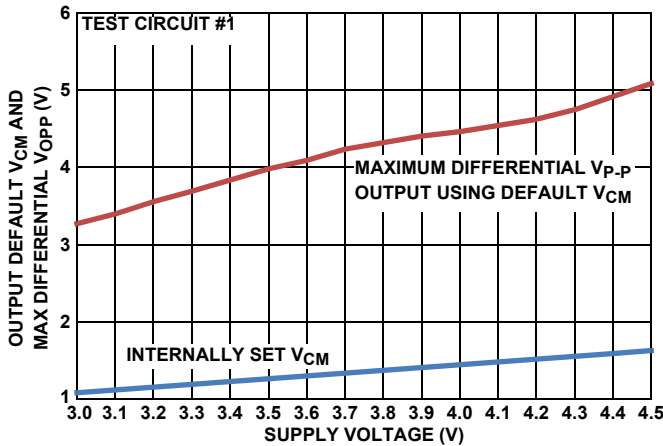
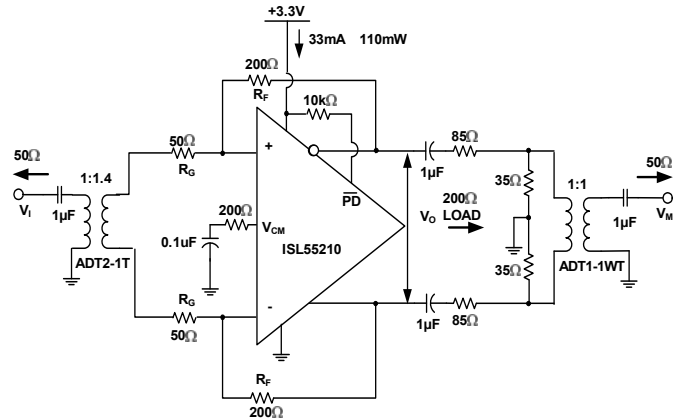
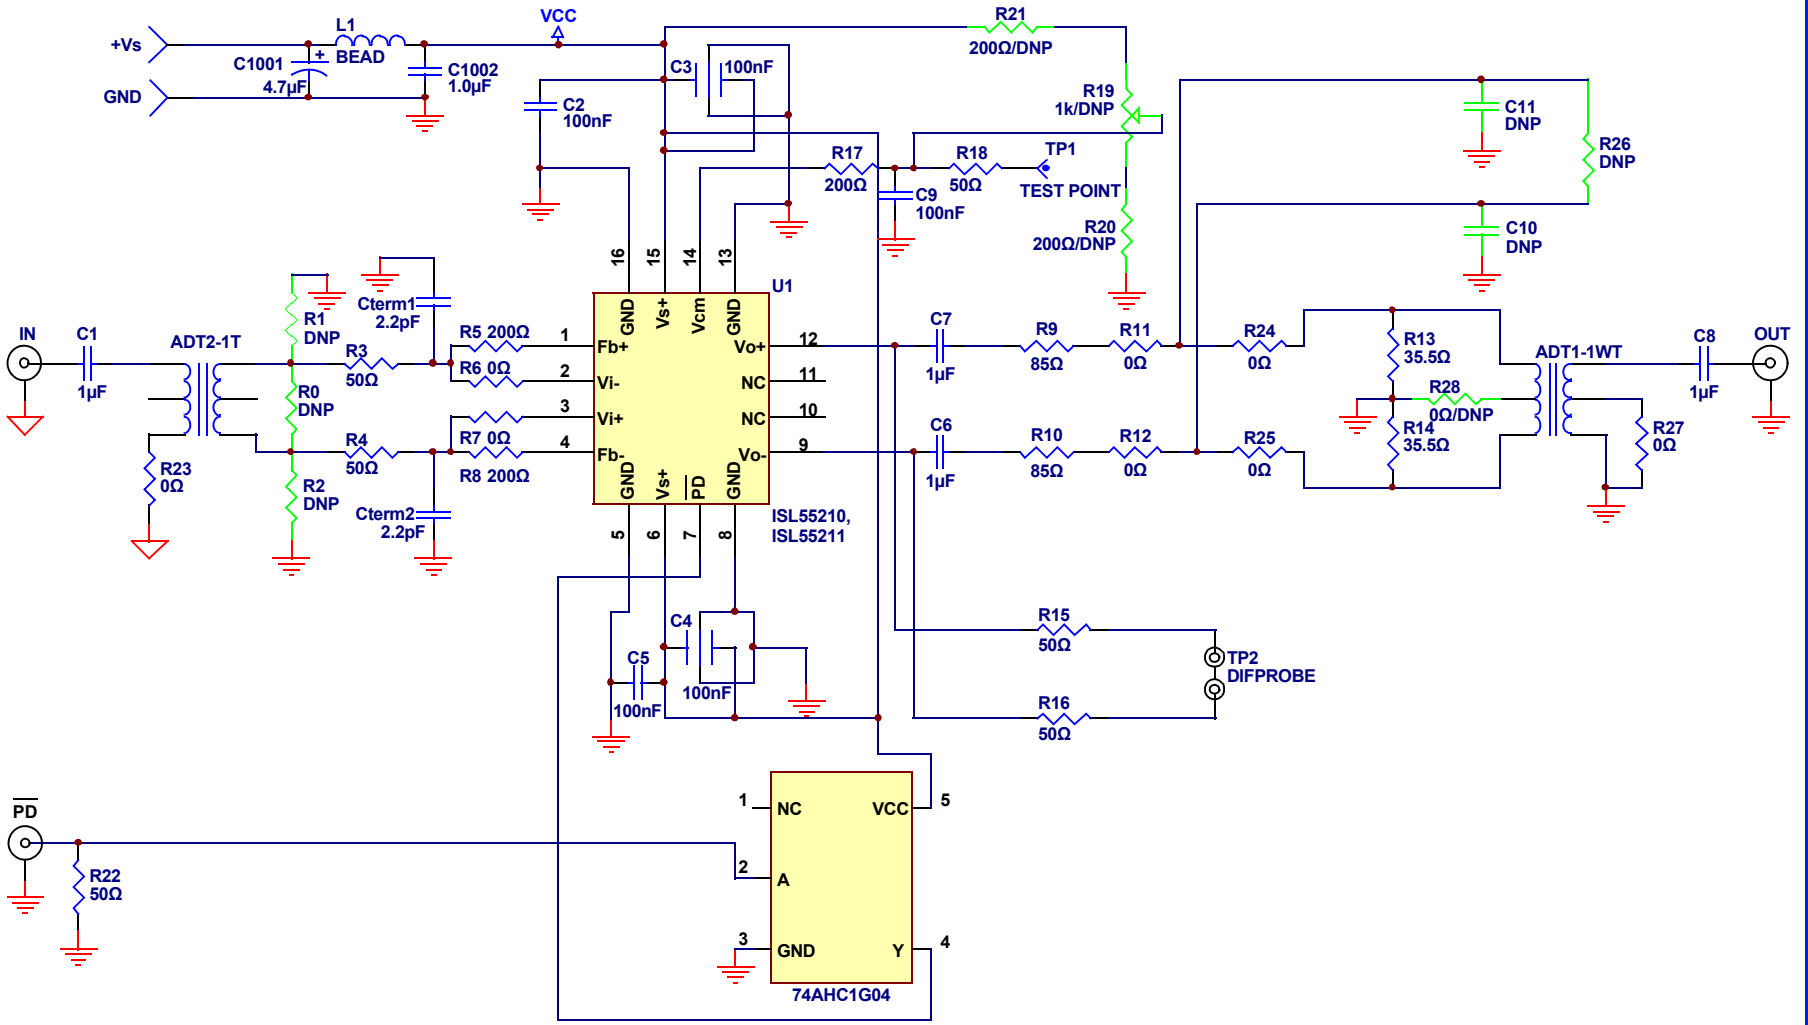

FIGURE 26. DEFAULT  $V_{CM}$  AND MAX  $V_{OPP}$  vs SUPPLY VOLTAGE
FIGURE 28. TEST CIRCUIT #1
FIGURE 38. SCHEMATIC FOR ISL55210, ISL55211 SINGLE INPUT TRANSFORMER EVM REV. C
The circuit of Figure 28 forms a starting point for many of the characterization curves for the ISL55210. Since most lab sources and measurement devices are single-ended, this circuit converts to differential at the input through a wideband transformer and would also be a typical application circuit coming from a single ended source. Assuming the source is a  $50\Omega$  impedance, the  $R_G$  resistors are set to provide both the input termination and the gain. Since the inverting summing nodes act as virtual ground points for AC signal analysis, the total termination impedance across the input transformer secondary will be  $2 * R_G$ . Setting this equal to  $n^2 * R_S$  will give a matched input impedance inside the bandwidth of the transformer (where "n" is the turns ratio). The amplifier gain is then set by adjusting the feedback resistors
Working with a transformer coupled input as shown in Figure 28, or with two DC blocking caps from a differential source, means the output common mode voltage set by either the default internal  $V_{CM}$  setting, or a voltage applied to the  $V_{CM}$  control pin, will also appear as the input common mode voltage. This provides a very easy way to control the ISL55210 I/O common mode operating voltages for an AC coupled signal path. The internal common mode loop holds the output pins to  $V_{CM}$  and, since there is no DC path for an  $I_{CM}$  current back towards the input in Figure 28, that  $V_{CM}$  setting will also appear as the input common mode voltage. It is useful, for this reason, to leave any input transformer secondary centertap unconnected. The internally set  $V_{CM}$  voltage is referenced from the negative supply pin. With a single 3.3V supply, it is very close to 1.2V but will change with total supply voltage across the device as shown in Figure 26.
Most of the characterization curves start with Figure 28 then get different gains by changing the feedback resistor,  $R_F$ , use different input transformers where then the  $R_G$  is also adjusted to hold an input match, or vary the loading. For load tests below the 200 $\Omega$  shown in Figure 28, a simple added shunt resistor is placed across the output pins. For loads >200 $\Omega$ , the series and shunt load R's are adjusted to show that total load (including the 50 $\Omega$  measurement load reflected through the 1:1 output measurement port transformer) and provide an apparent 50 $\Omega$  differential source to that transformer. This output side transformer is for measurement purposes only and is not necessary for final applications circuits. There are output interface designs that do benefit from a transformer as part of the signal path, but the one shown at the right of Figure 28 is used only for characterization to get a doubly terminated 50 $\Omega$  measurement path going differential to single ended.
The characterization circuit of Figure 28 shows one possible input stage interface that offers several advantages. The ISL55210 can also support a DC coupled differential to differential or single ended input to differential requirement if needed. Where AC coupling is adequate, the circuit of Figure 28 simplifies the input common mode voltage control. If the source coming into this stage is single ended, the input transformer provides a zero power conversion to differential. The two gain resistors ( $R_G$  in Figure 28) provide both the input termination impedance and the gain element for the amplifier. For minimum noise, only  $R_G$  should be used and set to achieve the desired input impedance. Since the ISL55210 is a VFA device, these resistor values can be scaled up and down a bit more freely than a current feedback based FDA.
3.6VP-P output capability. The VP-P reported in Figure 26 is an asymmetrically clipped maximum swing. Going 10% above this 3.7V target to 4.1V will be within the recommended operating range and give some tolerancing headroom that would also suggest the VCM voltage be moved up to approximately 1.5V. This coincides with the default output VCM from Figure 26. Operating at +4.1V single supply in a Figure 28 type configuration will give the maximum linear available output swing of 3.6VP-P.
The differential inputs of the ISL55210 also have operating range limits relative to the supply voltages. Operating in an AC coupled circuit like Figure 28 will produce an input common mode voltage equal to the outputs. The inputs can operate with full linearity with this VCM voltage down to 1.1V above the GND connection (or -VS supply). On the default 1.2V output VCM on +3.3V supplies this gives a 100mV guardband on the input VCM voltages. Overriding the default VCM by applying a control voltage to the VCM pin should be done with care in going towards the negative supply due to this limit. On the + side, the maximum VCM above the -VS supply is 2V so there is more room to move the output VCM up than down from the default value.
Test circuit #1 (Figure 28) is implemented on an Evaluation Module Board available from Intersil. This board includes a number of optional features that are not populated as the board is delivered. The full EVM board circuit is shown in Figure 38 where unloaded (optional) elements are shown in green.